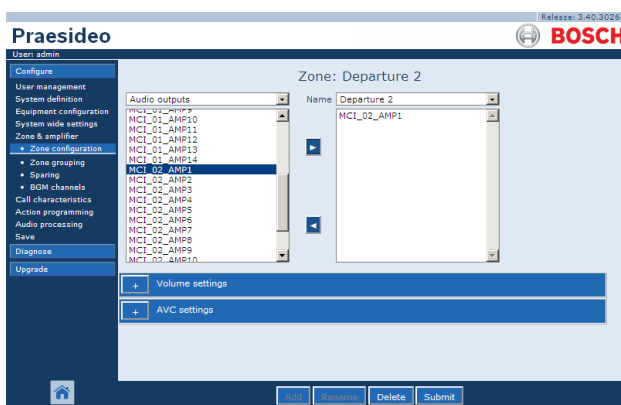

figure 45.5: Add zone, step 5
- 5 Double click the selected output or click the > button to add the output to the zone (see figure 45.5).